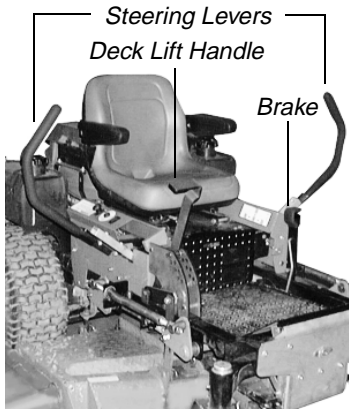

Figure. 3
3. **Left and Right Steering Levers:** (See Figure 3.) These hinged levers open out to the side in the neutral position to permit the operator to be seated or to leave the mower's seat. The operator, when seated, can pull the levers up to the operating position, a comfortable forearm's length away. These levers control all of the movements of the mower. Pushing both levers forward causes the mower to move forward. Pulling both levers back causes the mower to move backward. Pushing one lever ahead of the other lever causes the traction wheel on the side where the lever is ahead to rotate faster than the other traction wheel, making the mower turn toward the side where the lever is behind. When one lever is pushed forward and the other lever pulled back the same amount, one traction wheel will turn in reverse and the mower will turn within its own length.
5. **Parking Brake:** (See Figure 3.) Located on the left side of the traction unit. The handle is an overcenter lever which applies the internal drum-type brake on each drive wheel when the handle is pulled to the rear. The brake must be engaged in order to start the engine.
6. **Deck Lift Handle and Optional Foot Pedal Lift Assist:** (See Figure 3.) Located on the right front corner of the mowing deck. Raise the mowing deck to the transport position, by pulling the lever to the rear and moving it inward into the stop for transport. To lower the mowing deck, pull the deck lift handle and move it outward. This lowers the deck to the cutting position. The foot pedal lift assist (not pictured above) can provide “lift assist” to the hand lever or with “foot effort only”. To provide assistance to the lift handle: remove the hairpin clip from the locking pin and remove the pin from the pedal assembly. Fold the pedal down to the horizontal position so the hole in the pedal aligns with the hole in the lever. Reinstall the locking pin and hairpin clip. Pull on the Lift handle and depress the foot pedal to raise the deck. Lifting with “foot effort only” depress the foot pedal (the hand lever will lock into transport position if fully depressed). To release the lift mechanism depress the foot pedal, move the hand lever outward and slowly reduce foot pedal effort to lower the